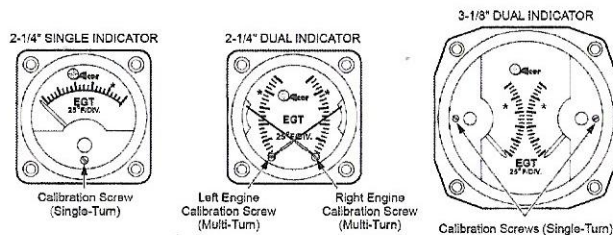

FIGURE 2 - CALIBRATION SCREW LOCATION (Front View of Indicator)
- Step 3. Use the calibration screw (see Figure 2) on front of EGT to adjust the needle to the asterisk (*), with the Alcor® screwdriver provided.